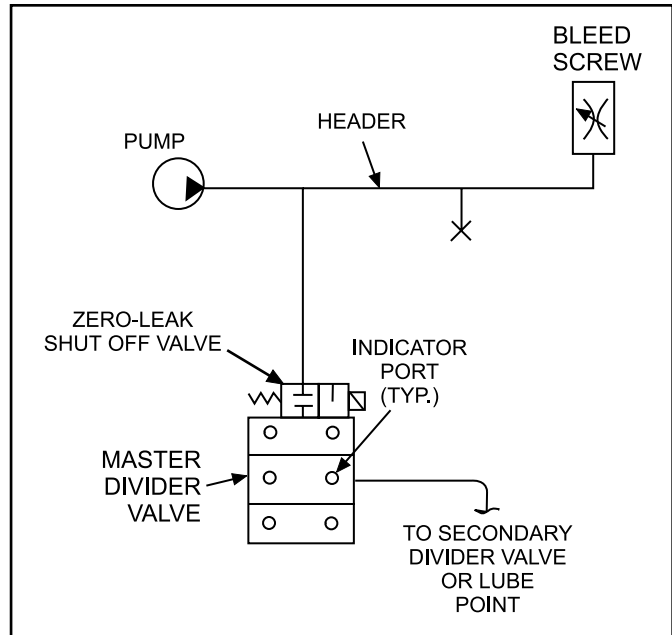

Figure 3-4. Bleeding Header-Supplied Master Divider Valve
3.2.5.1 This procedure for bleeding a header-supplied master divider valve should be followed only after bleeding of secondary valves and lube points have been completed as discussed in paragraph 3.2.3. Figure 3-4 represents a typical pump, header and master manifold installation with reference points relating to the procedure.